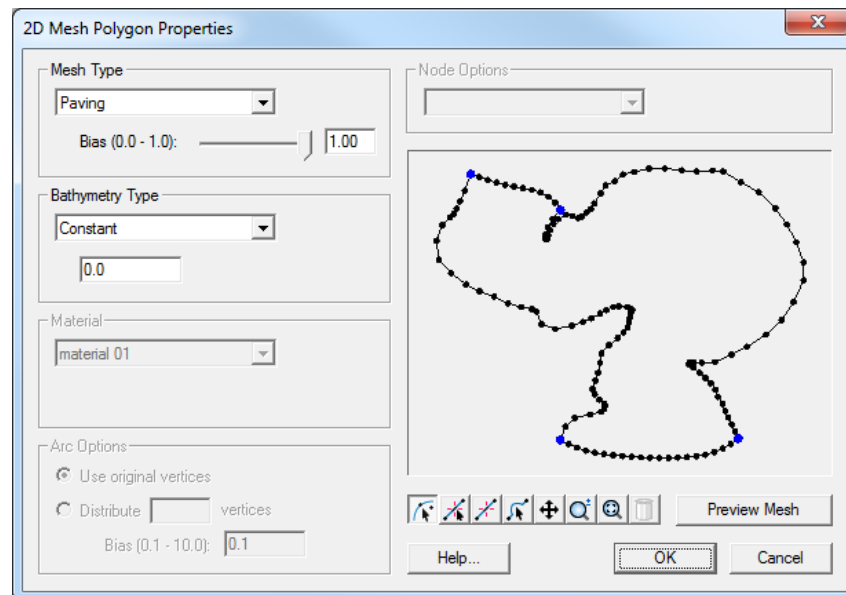

Figure 3 2D Mesh Polygon Properties dialog
11. Using the **Select Polygon** tool, double-click inside the polygon to open the *2D Mesh Polygon Properties* dialog (Figure 3).